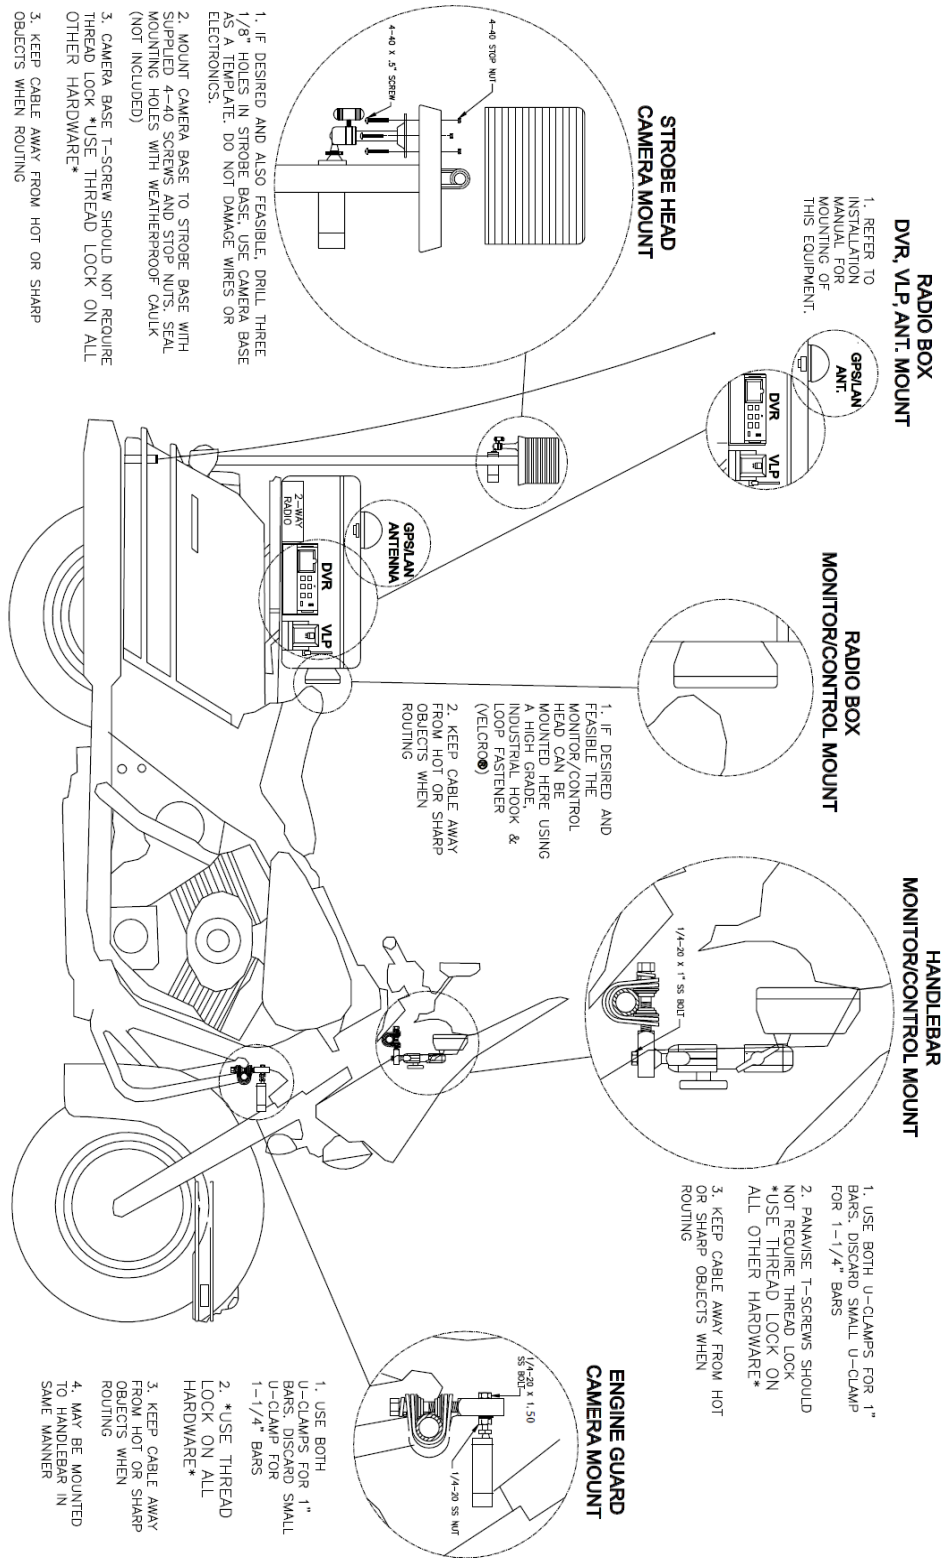

Figure 3: Installation Overview
Please refer to Figures 3, 5, 6, and 7 for more details.
For more details, refer to Figures 3 (page 2) and 8 (below).
- 4 Install assembly as illustrated in Figure 3 on page 2.